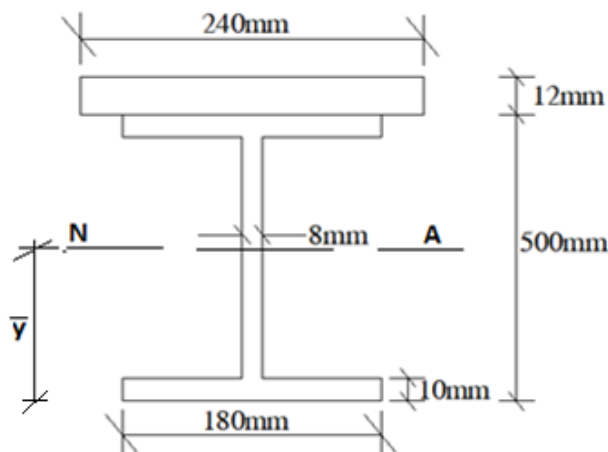

Figure 8
- c) An I section has flanges of size 180 mm x 10 mm and its overall depth is 500 mm. Thickness of the web is 8 mm. it is strengthened with a plate of size 240 mm x 12 mm on compression side. Refer figure 8. Find the moment of resistance of the section if permissible stress is  $150 \text{ N/mm}^2$  in bending tension. What uniformly distributed load it can carry if it is used as a cantilever of span 3 m? 12